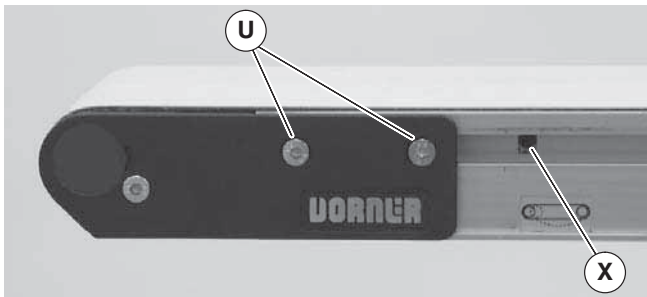

Figure 8
5. With a 5 mm hex-key wrench, rotate pinion gear (Figure 8, item X) to tension the conveyor belt. Tighten fastening screws (U) on both sides of conveyor to 60 in-lb (7 Nm). For proper tensioning, refer to “Conveyor Tension End Adjustment”, page 16.